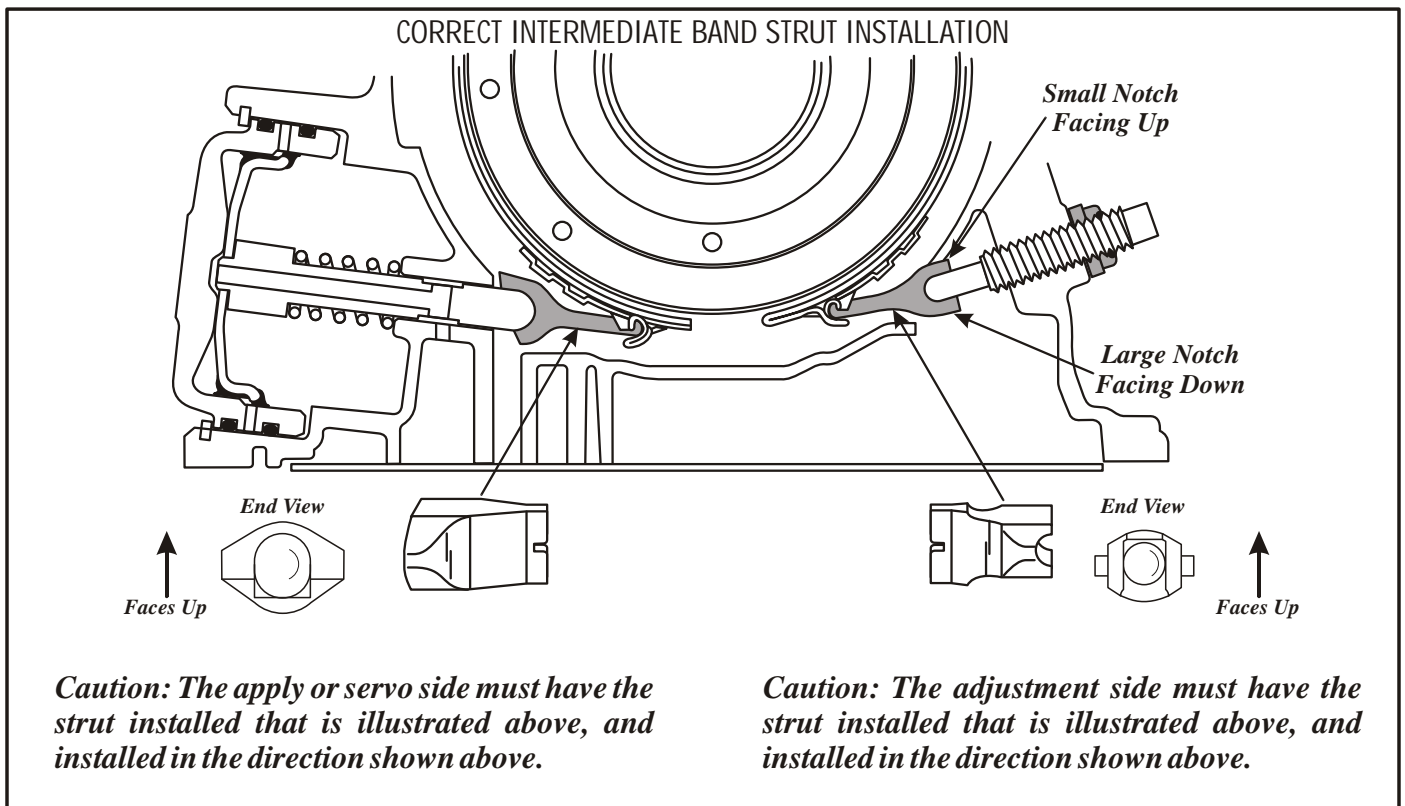

Figure 150
35. Install the intermediate band struts on each side of the band **exactly** as shown in Figure 150.